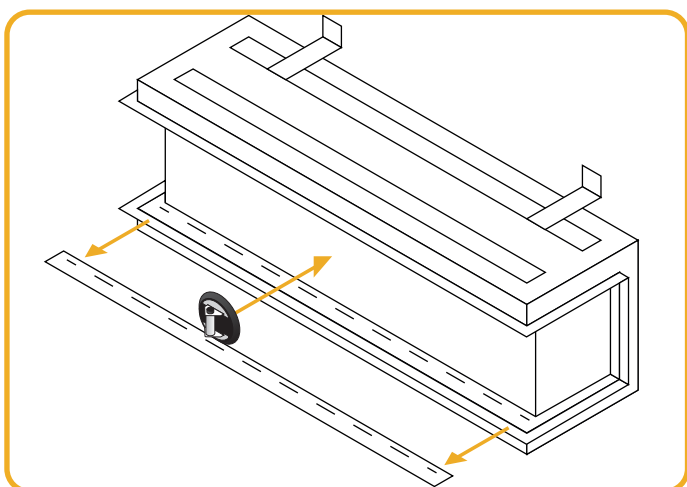

Figure.9.3 | Remove second glass retaining strip
- After removing the glass retainer strip, place the suction cup on the glass before removing the second glass retaining strip. See Figure 9.3.